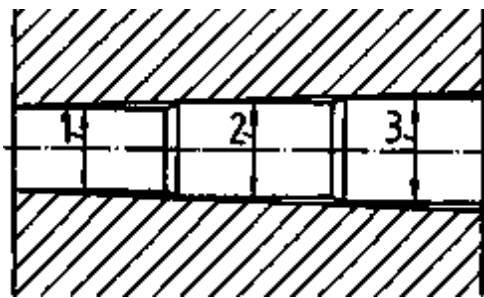

Figure 15 Straight stepped hole
- **The taper hole may be pre-machined as straight stepped hole (Fig. 15) but also by top slide adjustment (Fig. 16) or by means of the taper guide bar (Fig. 17).**